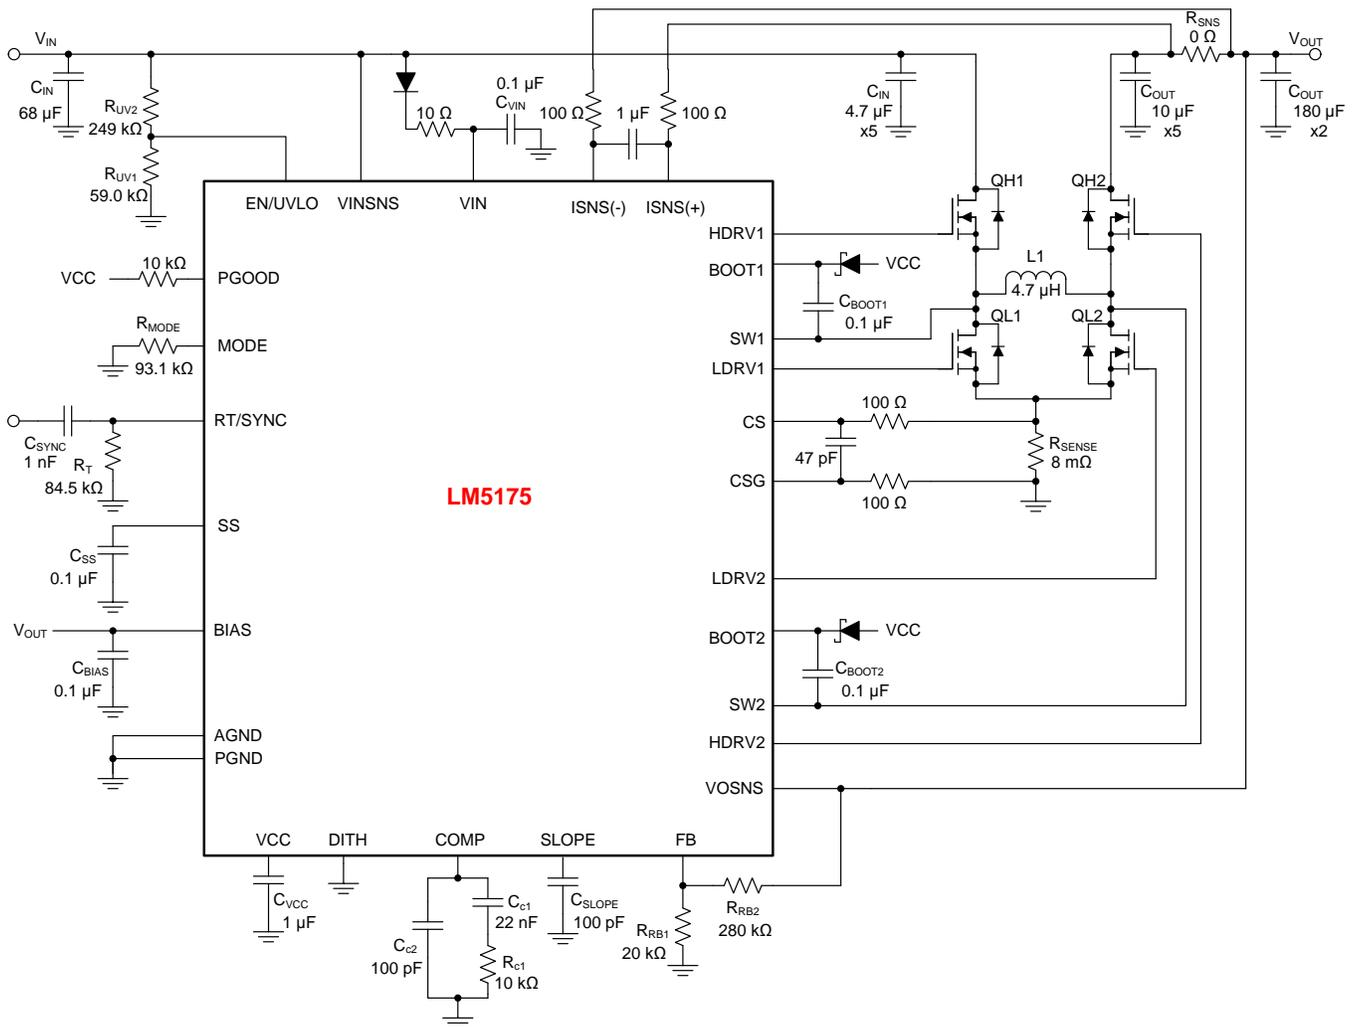

Figure 24. LM5175 Four-Switch Buck Boost Application Schematic
The LM5175 has a gm error amplifier for loop compensation. The gm amplifier output (COMP) range is 0.3 V to 3 V. Connect an  $R_{C1}$ - $C_{C1}$  compensation network between COMP and ground for type II (PI) compensation (see Figure 24). Another pole is usually added using  $C_{C2}$  to suppress higher frequency noise.
The low-side gate drivers are powered from VCC and the high-side gate drivers HDRV1 and HDRV2 are powered from bootstrap capacitors  $C_{BOOT1}$  (between BOOT1 and SW1) and  $C_{BOOT2}$  (between BOOT2 and SW2) respectively. The  $C_{BOOT1}$  and  $C_{BOOT2}$  capacitors are charged through external Schottky diodes connected to the VCC pin as shown in Figure 24.
Typically a combination of ceramic and bulk capacitors is needed to provide low ESR and high ripple current capacity. The complete schematic in Figure 24 at the end of this section shows a good starting point for  $C_{OUT}$  for typical applications.
The maximum RMS current occurs at  $D = 0.5$ , which gives  $I_{CIN(RMS)} = I_{OUT}/2 = 3 \text{ A}$ . A combination of ceramic and bulk capacitors should be used to provide short path for high di/dt current and to reduce the output voltage ripple. The complete schematic in Figure 24 is a good starting point for  $C_{IN}$  for typical applications.
For some application circuits, it may be required to add a filter network to attenuate noise in the CS and CSG sense lines. Please see Figure 24 for typical values. The filter resistance should not exceed 100  $\Omega$ .